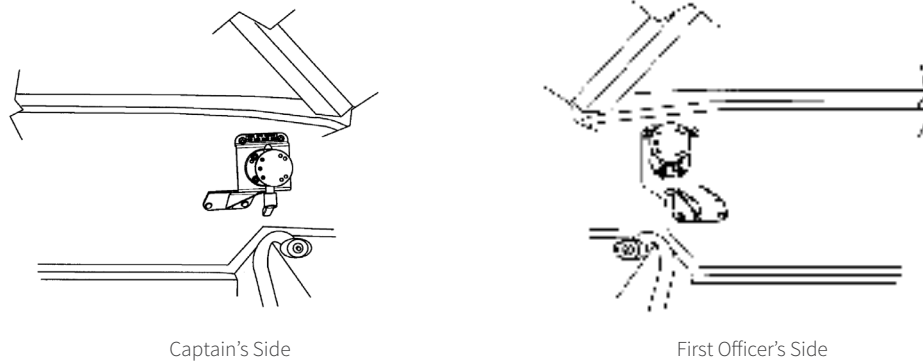

FIGURE 1 – INSTALLATION OVERVIEW - EZMOUNT™ ARM
- » The EZMount™ mounting arms used for EFB Display units are installed as shown in Figures 1 and 2.